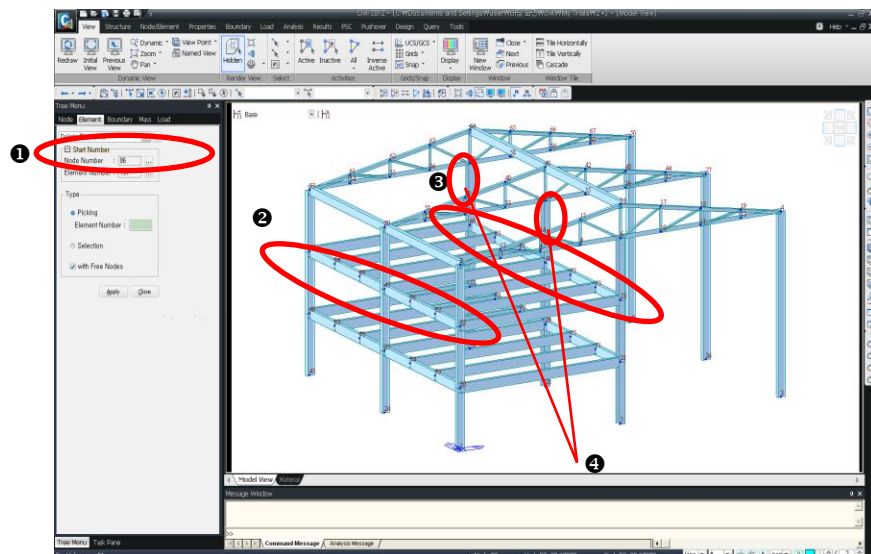

Figure 2.11 Generation of Roof Girders and Removal of Columns
3. Assign nodes **2 (0, 0, 30)** to **53 (0, 52, 30)** to generate the roof-level girders (Fig.2.11–②).
4. Assign nodes **16 (32, 0, 36)** to **64 (32, 52, 36)** to generate the roof-level girders (Fig.2.11–③).
9. Remove the column elements in Fig.2.11–④ by assigning with the mouse.